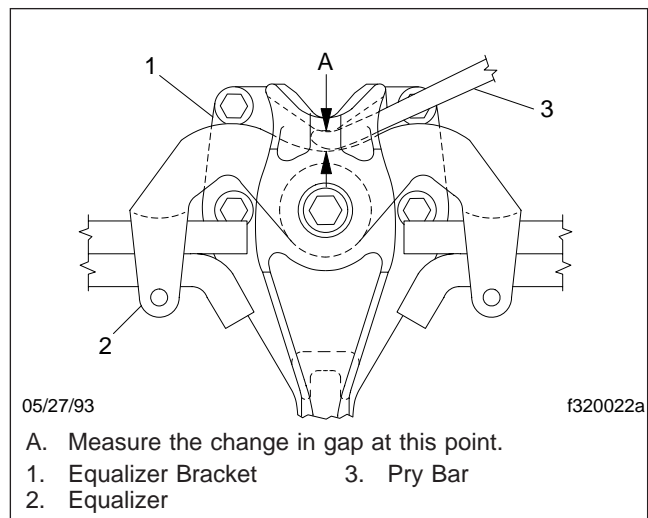

Fig. 3, Side View of the Equalizer
1. Block the frame up enough to take the weight of the chassis off of the springs. Attempt to move the equalizer up and down, by using a pry bar between the top of the equalizer and the top of the equalizer bracket. Apply hand pressure only. See Fig. 3. If movement at the center of the equalizer exceeds 1/8 inch (3 mm), replace the equalizer bushings.